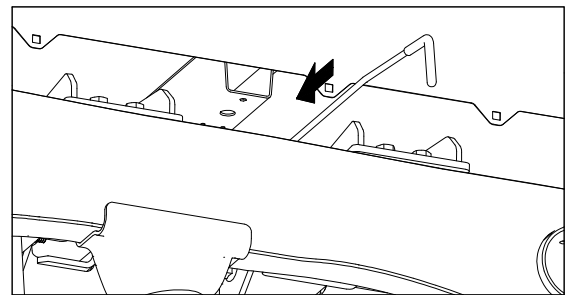
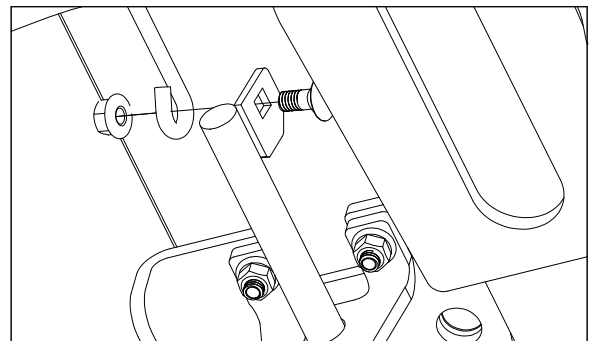

Figure G1: View looking into driver side wheel well.
Figure G2: View looking up under center section.
1. **Install handle.** Install the latch pin release handle by inserting it from the outside of the truck in the driver side wheel well between the two cross members, see Figure G1. Align the handle eyelet with the square hole in the latch pin so the handle is in line with the latch pin. Secure the handle to the pin with a 5/16" X 3/4" carriage bolt and 5/16" flange nut, see Figure G2. Tighten the nut until it is secure. When tightening the handle, position it so that it will not rub on the frame. Do not over-tighten and deform the handle eyelet.